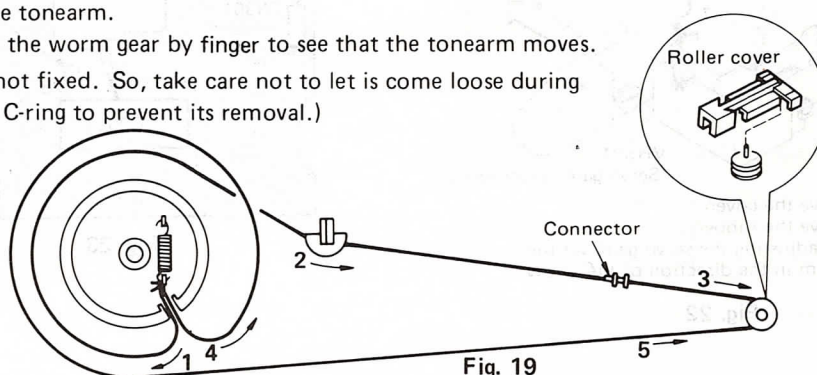

Fig. 19
2. Remove the roller cover. (Fig. 19)
3. Set the rope in the order of 1 ~ 5 (Fig. 19)